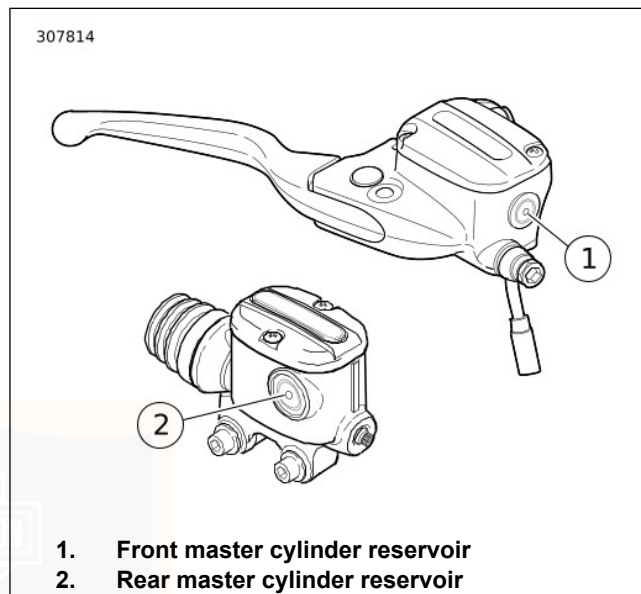

Figure 79. Sight Glass Minimum Marks
2. See Figure 79. View reservoir sight glass. Fluid level must be at or above the minimum mark on glass. If fluid level is below minimum mark, see a Harley-Davidson dealer.